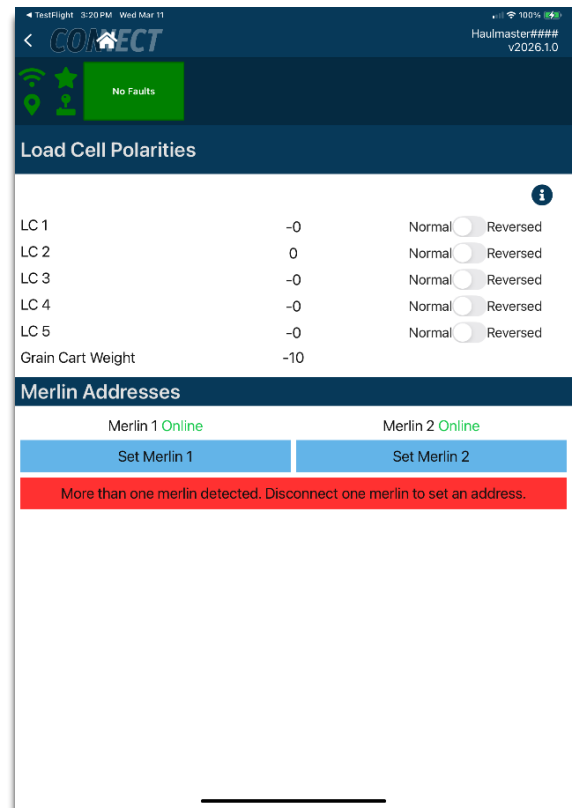

Figure 82 Load Cell Polarities
10. Plug in both Merlins; **Merlin 1 Set** and **Merlin 2 Set** should now be Online. The bottom bar will go **red** as in Figure 82 above.